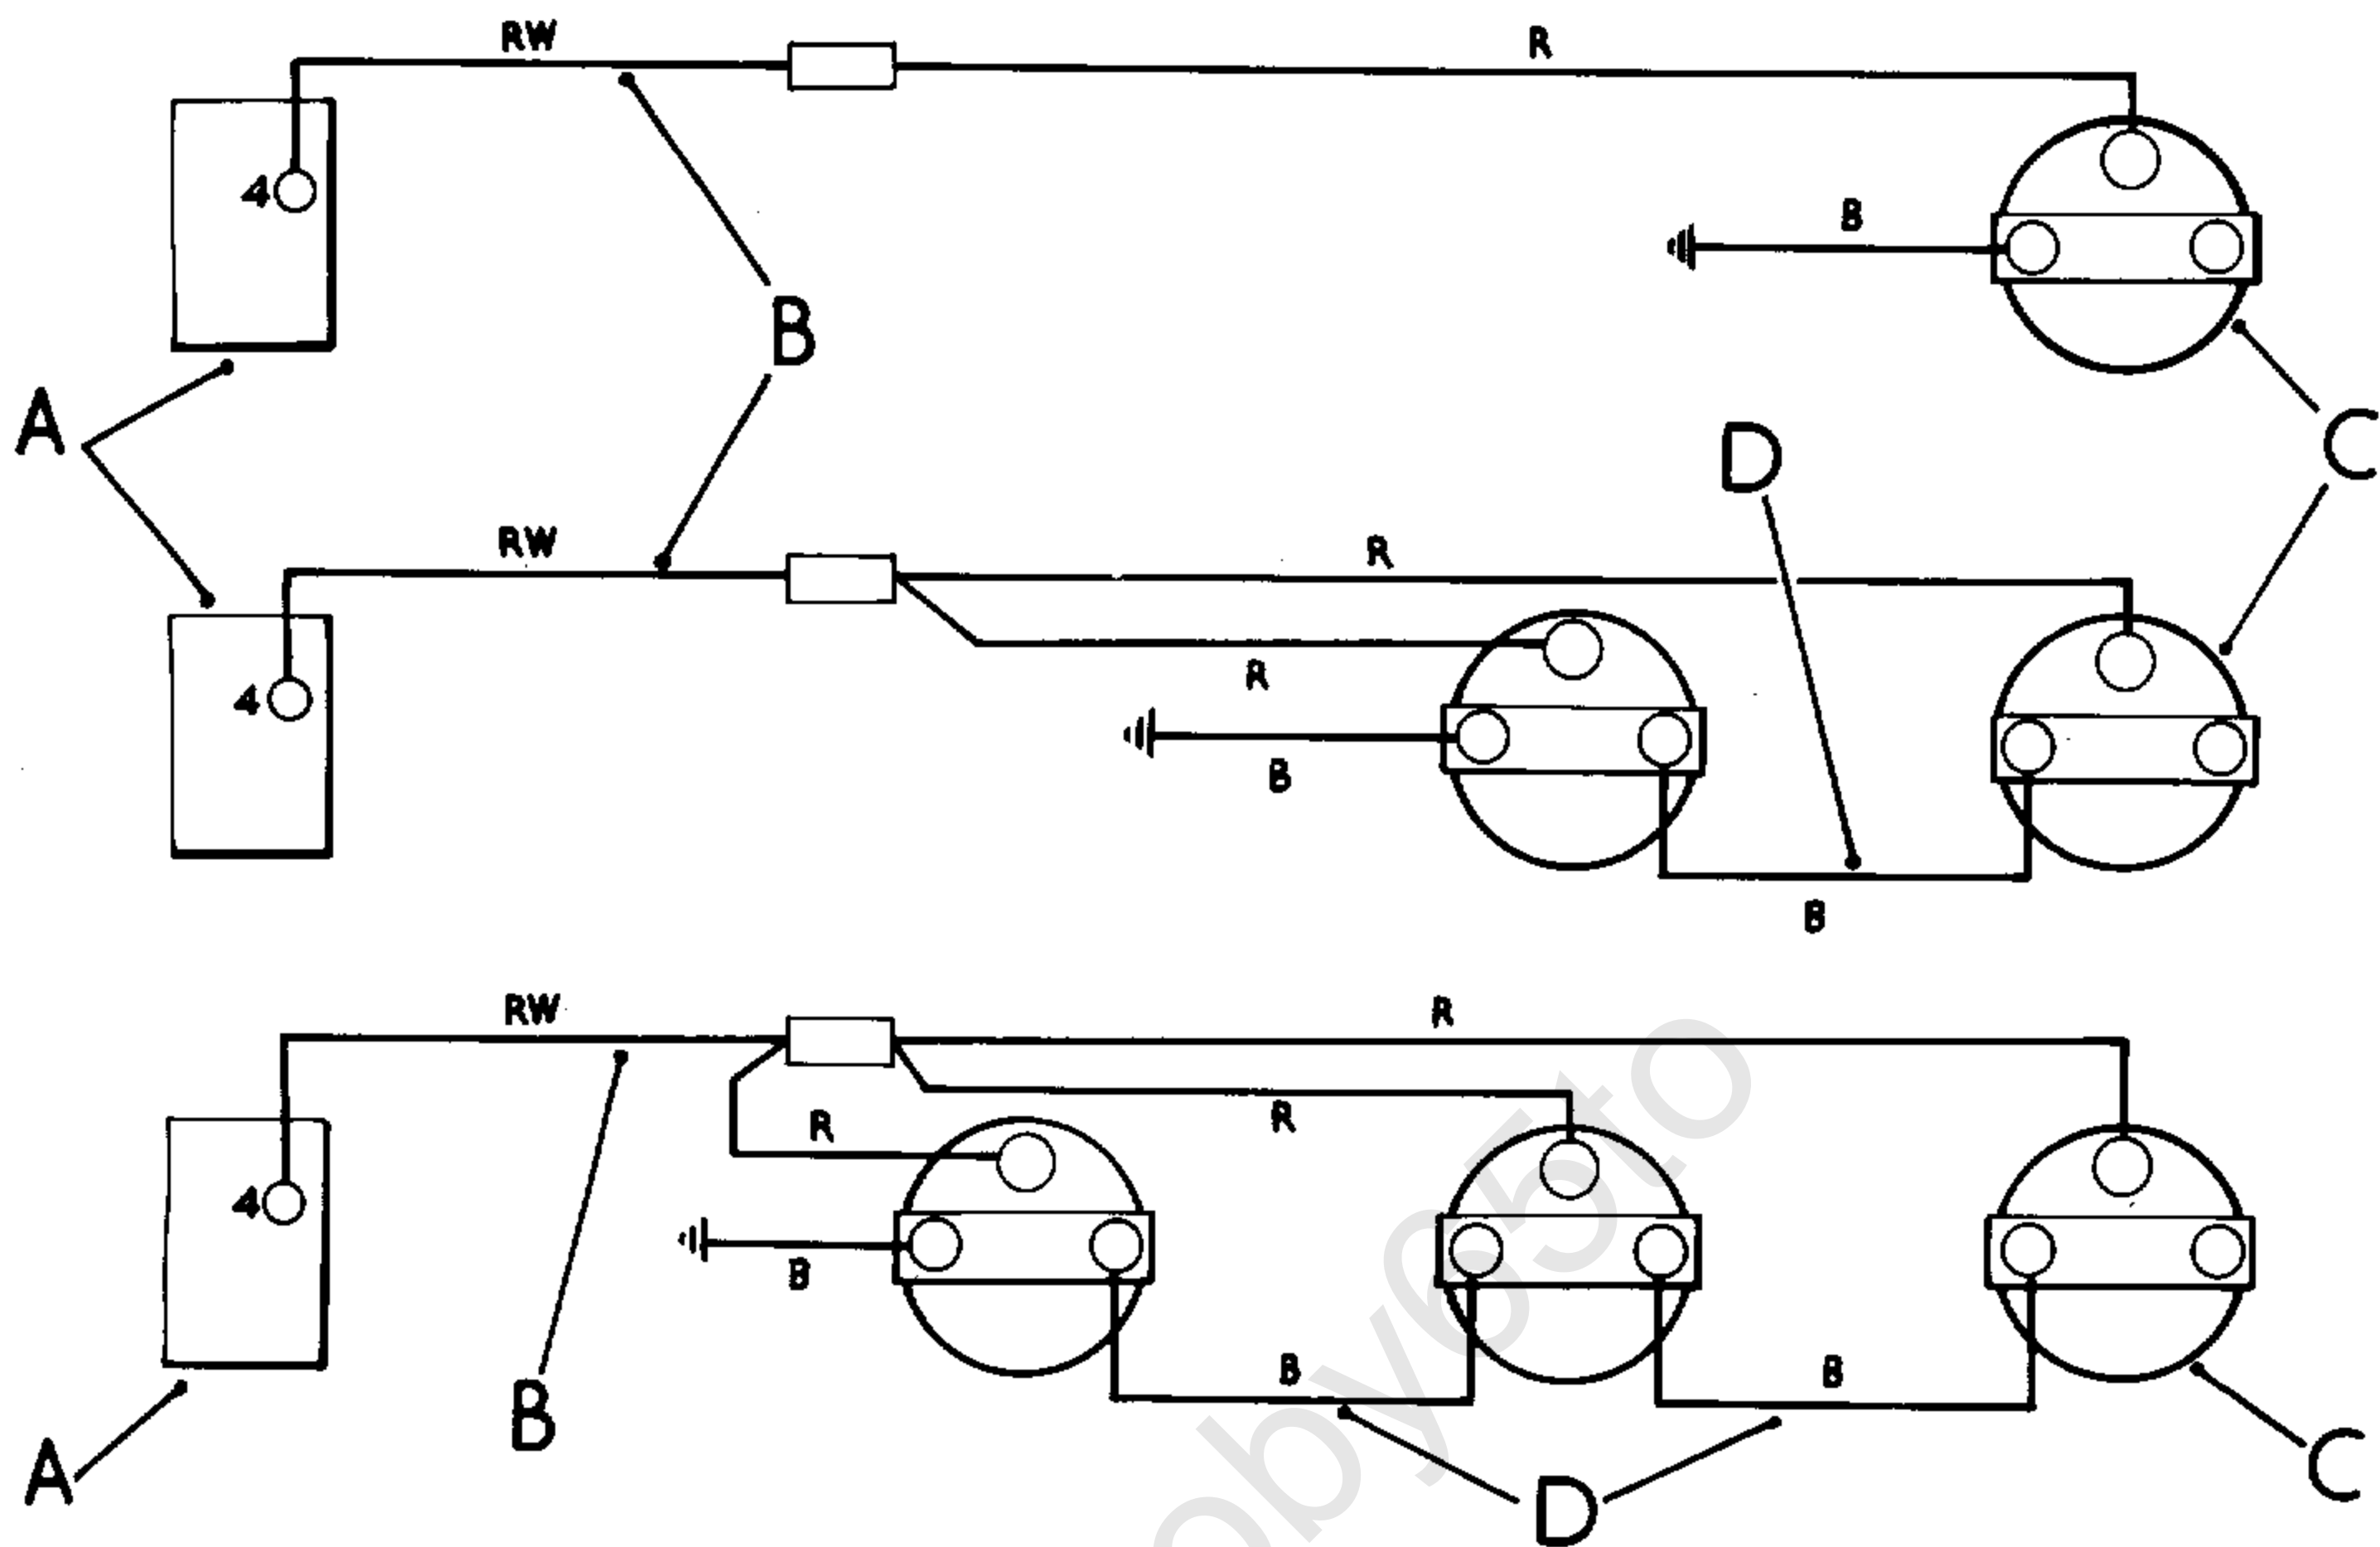

Fig. 6. Electrical circuit for instrument illumination showing alternatives for single, double and tripple instrument installations
15. Connect cable 579220 to the ammeter, the red/white lead to the red/white lead from the ammeter and the black lead to the ammeter fixing clamp Fig.6
20. If more than one instrument is fitted in the front of the parcel tray, connect the instrument illumination circuit as illustrated, Fig.6 using lead 528920.
22. Using cleat 240429 (2) clip the ammeter cable to the main harness in the engine compartment.